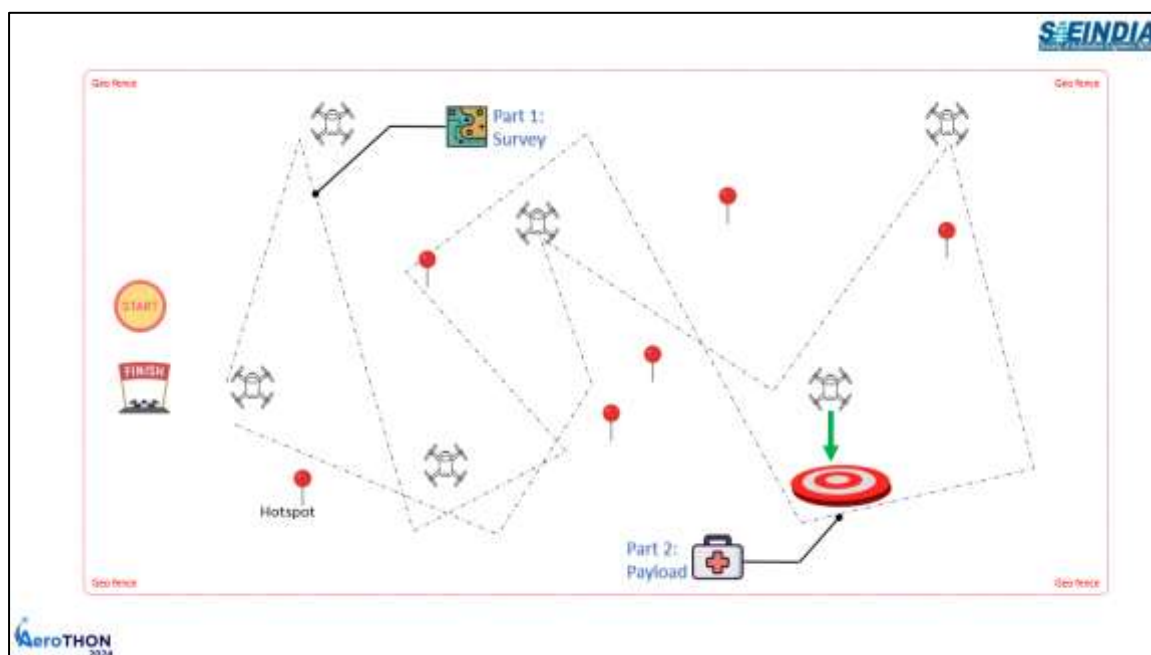

Figure 5: Flight Mission 4 – Autonomous - Mission Profile
- While the Figure 5 depicts the mission profile, actual conditions on the field may vary slightly.